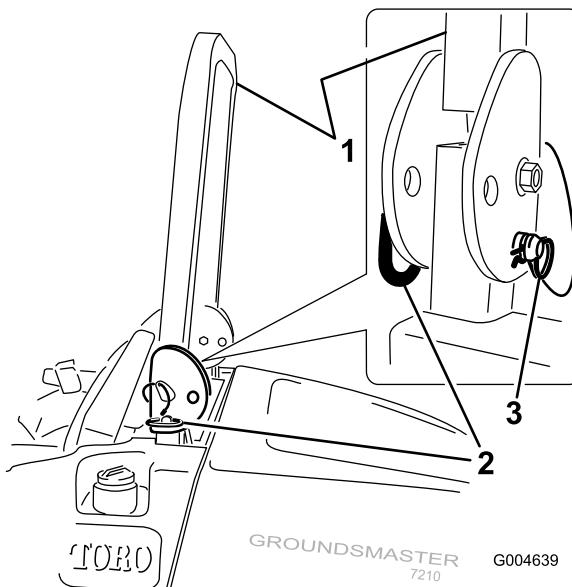

Figure 12
1. To lower the roll bar, remove the hairpin cotters, push the roll bar forward against the springs, and remove the two pins (Figure 12).
3. Install the two pins and secure them with the hairpin cotter pins (Figure 12).
4. To raise the roll bar, remove the hairpin cotter pins and remove the two pins (Figure 12).
5. Raise the roll bar to the upright position and install the two pins and secure them with the hairpin cotter pins (Figure 12).